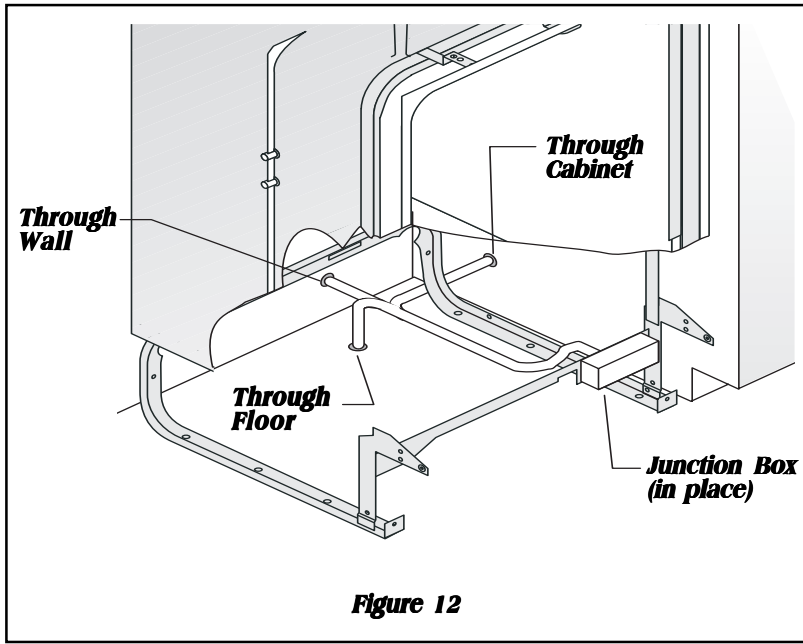

Figure 12
1. Remove junction box cover and pull house wiring into junction box. See Figures 12 and 13.